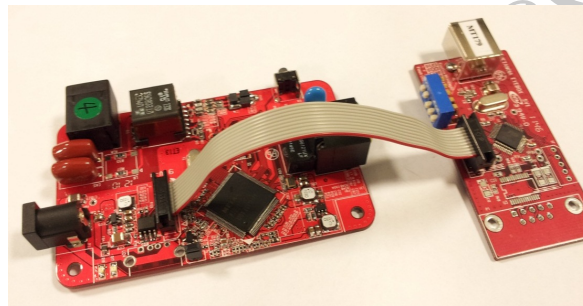

Figure 1.5: How to connect the Eyebox to EVB2311-BL/E.
5. Connect the Eyebox to the EVB2311-BL/E, the red line on the wire from the Eyebox should be matched with pin number 1. See Figure 1.5.
3. Connect the Eyebox to the EVB2311-BL/E, the red line on the wire from the Eyebox should be matched with pin number 1. See figure 1.5.